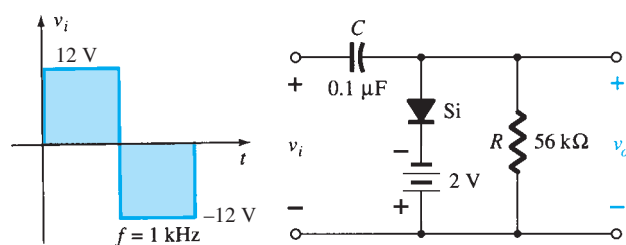

FIG. 2.183
*39. For the network of Fig. 2.183: